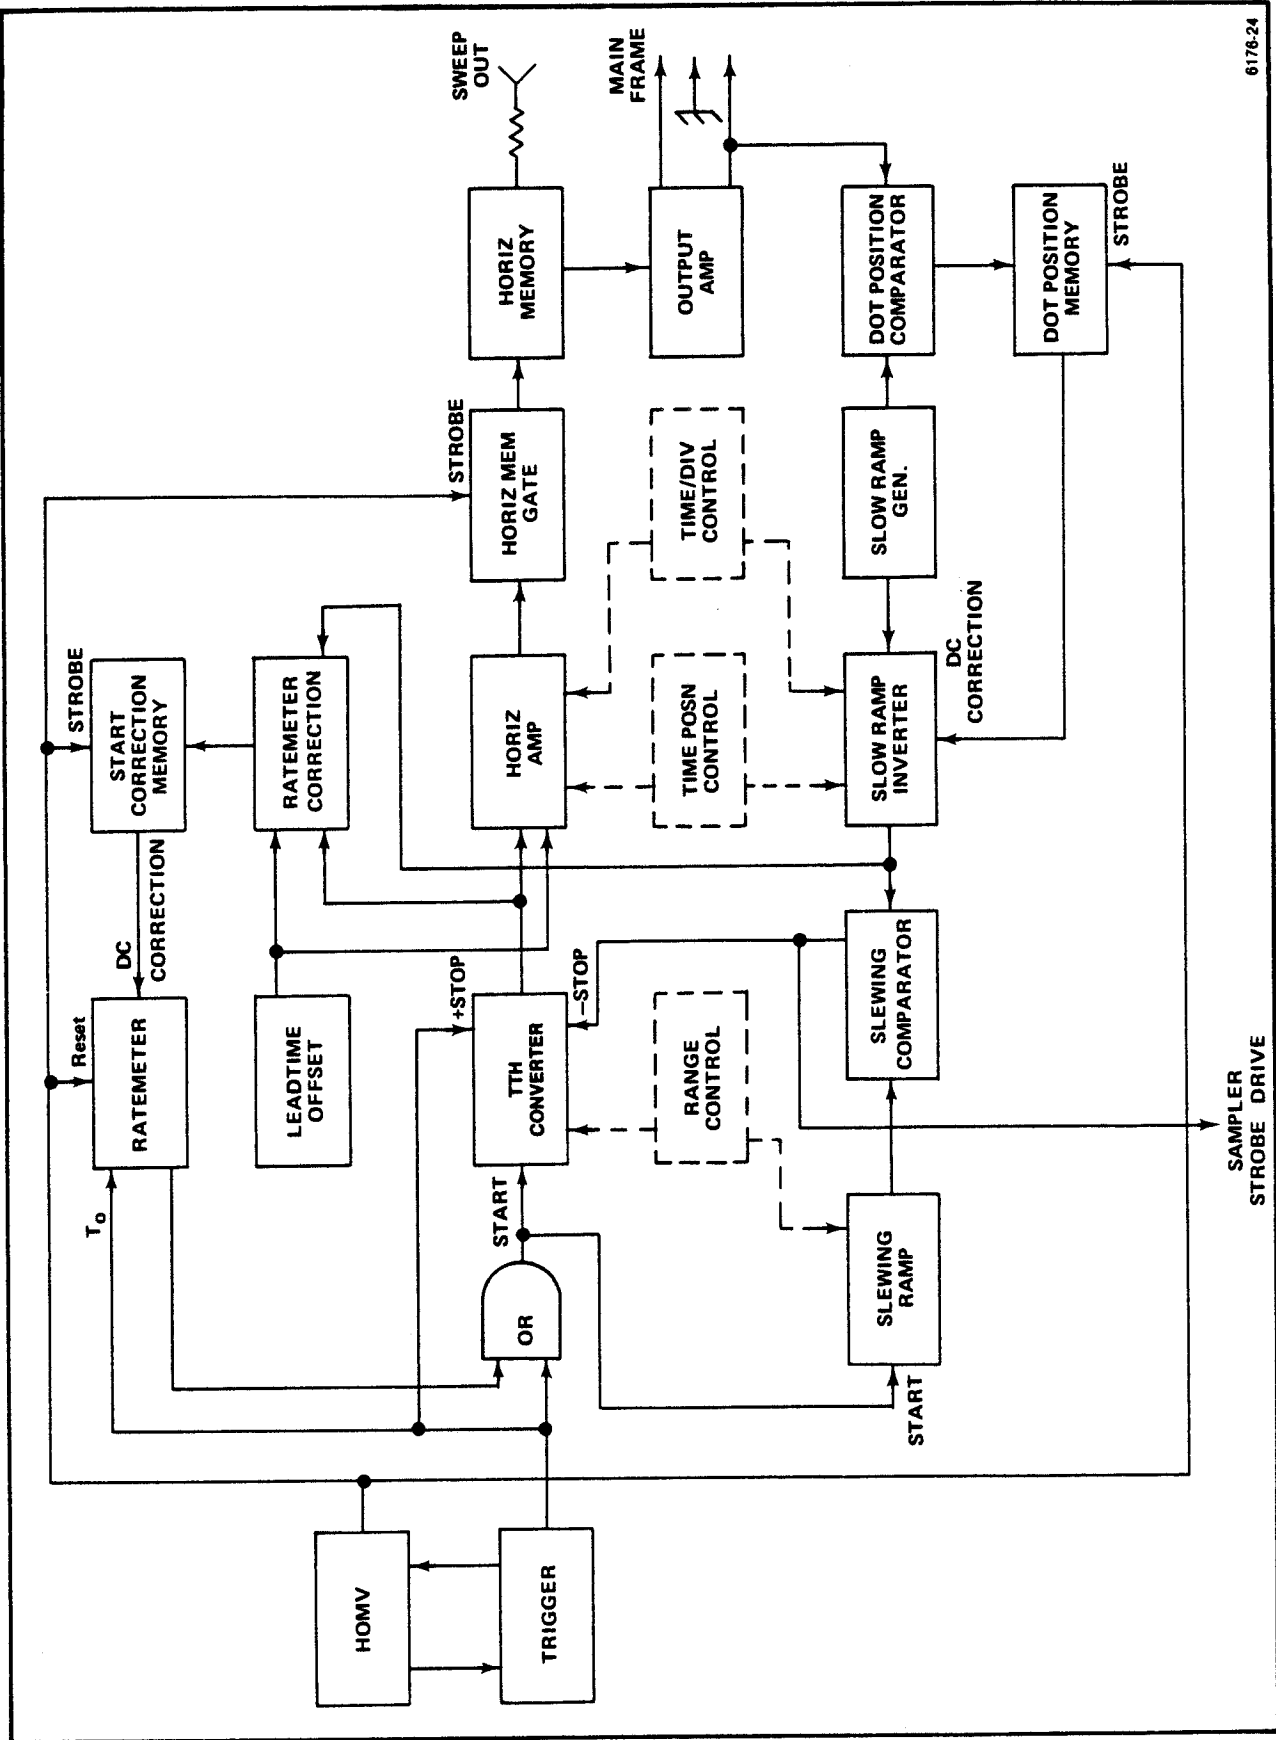

Figure 3-14. Random mode block diagram.
Comparison of Figure 3-14 with the Sequential Block diagram of Figure 3-8 shows that a number of blocks have been added. The additional blocks shown in Figure 3-14 are: Ratemeter, Lead Time Offset, Ratemeter Correction, and Start Correction Memory. Another difference between the Sequential and the Random block diagrams is that the Random block diagram shows a (+) stop input to the TTH Converter, and an OR logic symbol is shown at the TTH Converter input.
interval (see Figure 3-14). These two inputs are a reset pulse delivered by the HOMV (at 1/2 hold-off interval after  $T_0$ ), and an input delivered by the Trigger circuit at time  $T_0$ . The Ratemeter effectively measures the time between reset and the next trigger recognition ( $T_0$ ) and adds this time to the 1/2 hold-off time.
**Ratemeter Correction.** The Ratemeter Correction circuit combines Lead Time Offset with the output of a comparator. This comparator is considered to be included in the Ratemeter Correction block of Figure 3-14. The comparator delivers an output if the output of the TTH Converter and the output of the Slow Ramp Inverter are unequal. The error voltage from the comparator is combined with the Lead Time Offset at the Ratemeter Correction output.
The start input to the TTH Converter and Slewing blocks of Figure 3-14 shows two inputs operating through an OR circuit. In normal Random operation, the Ratemeter produces a start drive pulse that precedes the trigger pulse. The incoming trigger pulse then has no more effect on the already started TTH Converter and Slewing Ramp circuits. In the event that the Ratemeter guesses much too late, or the period of an individual trigger is much shorter than the average period, then the trigger circuit will start the TTH Converter and Slewing Ramp circuits, the same as in sequential.
The comparator (in the Ratemeter Correction block of Figure 3-14) checks the output level of the TTH Converter after it has been told to stop by both stop inputs. It compares this level plus a DC offset against the level of the Slow Ramp Inverter output. The comparator operating on the output of the TTH Converter uses the slewing programming as a reference base; if the start commands are operating at the correct time with respect to the trigger, the comparator reads the same voltage at the TTH Converter output as at the Slow Ramp Inverter (without leadtime offset). If the Slow Ramp Inverter has a -1 volt output, the TTH Converter must have a -1 volt output. To obtain the earliest